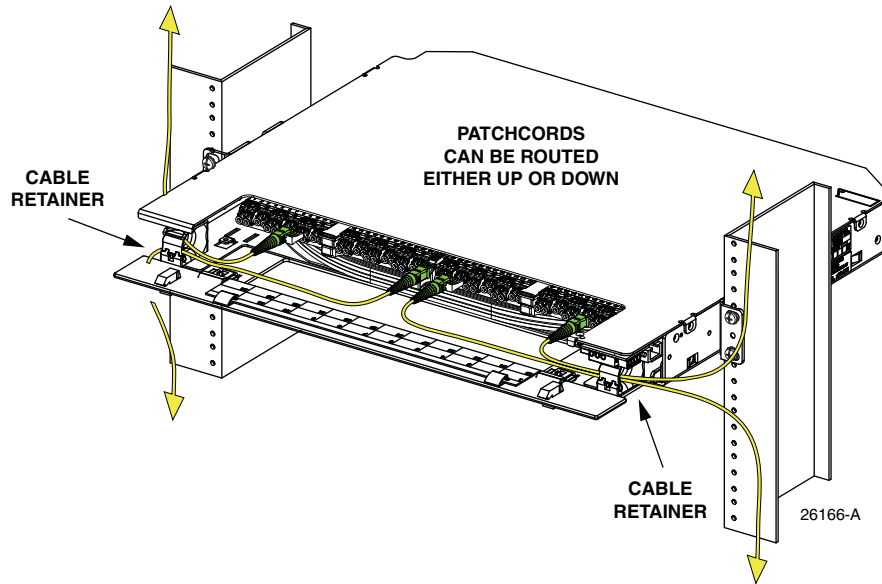
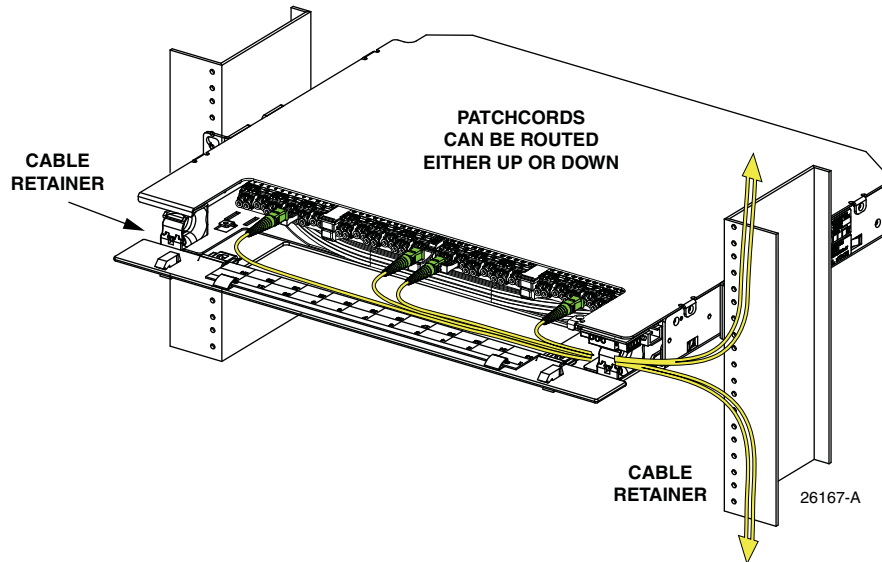

Figure 56. Patch Cord Routing To Both Sides
Figure 57. Patch Cord Routing To One Side
- Route the patch cords from the center of the panel outward to either side of the panel as shown in Figure 56 or to one side as shown in Figure 57.